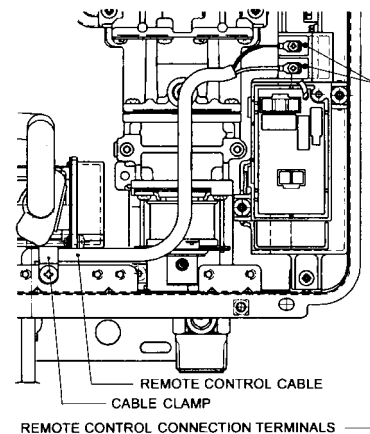

fig.2.
9. Thread the 3 cables through the cable access hole at the base of the appliance. Connect the 4 spade connectors to the terminals marked "Remote Control" on the printed circuit board (fig.2). Polarity is not important. Either wire colour can be connected to either terminal.
14. Thread the 4 cables through the cable access hole at the base of the appliance. Connect the 4 spade connectors to the terminals marked "Remote Control" on the printed circuit board (fig 2). Polarity is not important. Either wire colour can be connected to either terminal.